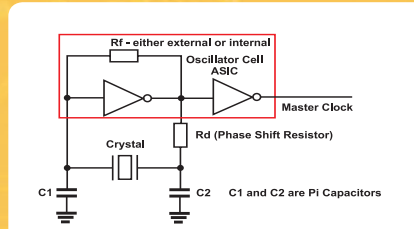

Figure 2: Oscillators Schematic
**Oscillator Schematic.** Most ASIC use the Pierce oscillator configuration. Ref Fig 2.